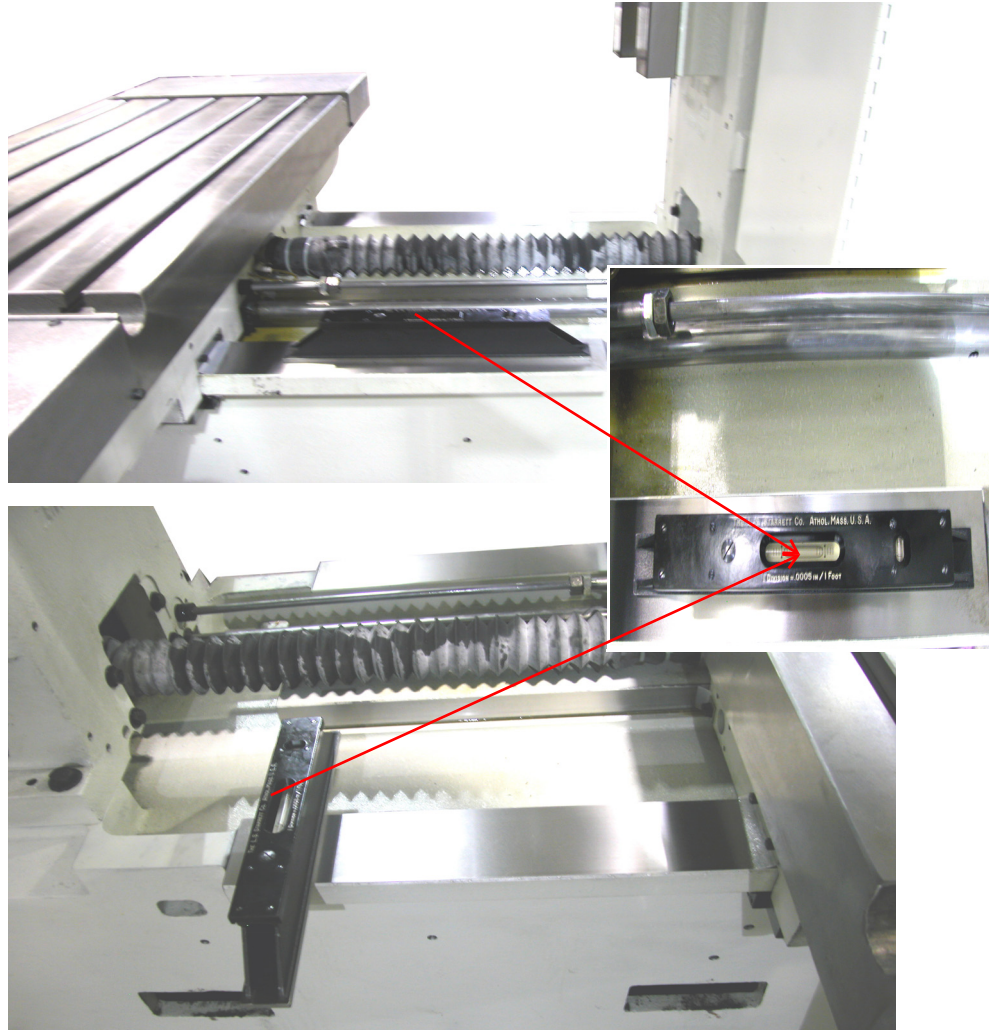

Figure 3-6: Leveling Box Way.
8. Place the level on the right hand way (the outer right hand way on the 6535) of the base with the small bubble towards the column. Take an accurate reading. (See *Figure 3-6: Leveling Box Way.*)